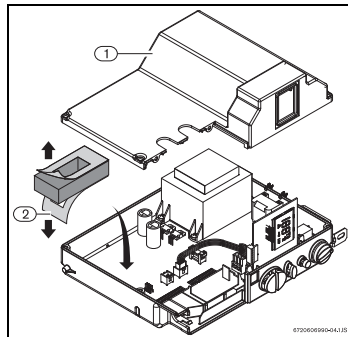
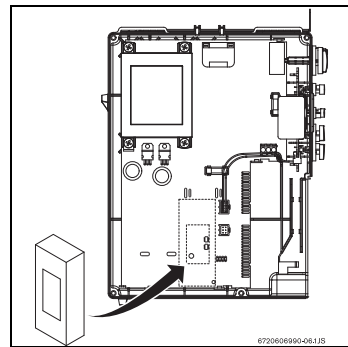

Fig. 3
Fig. 4 Support correct position
- ▶ Open control unit top cover (Fig. 3, pos. 1).
- ▶ Remove the protective paper (Fig. 3, pos. 2) from one face of the support and attach it to the main PCB as shown in Fig. 4.
- ▶ Replace the control unit cover with the 4 Philips head screws (Fig. 3, pos. 1).